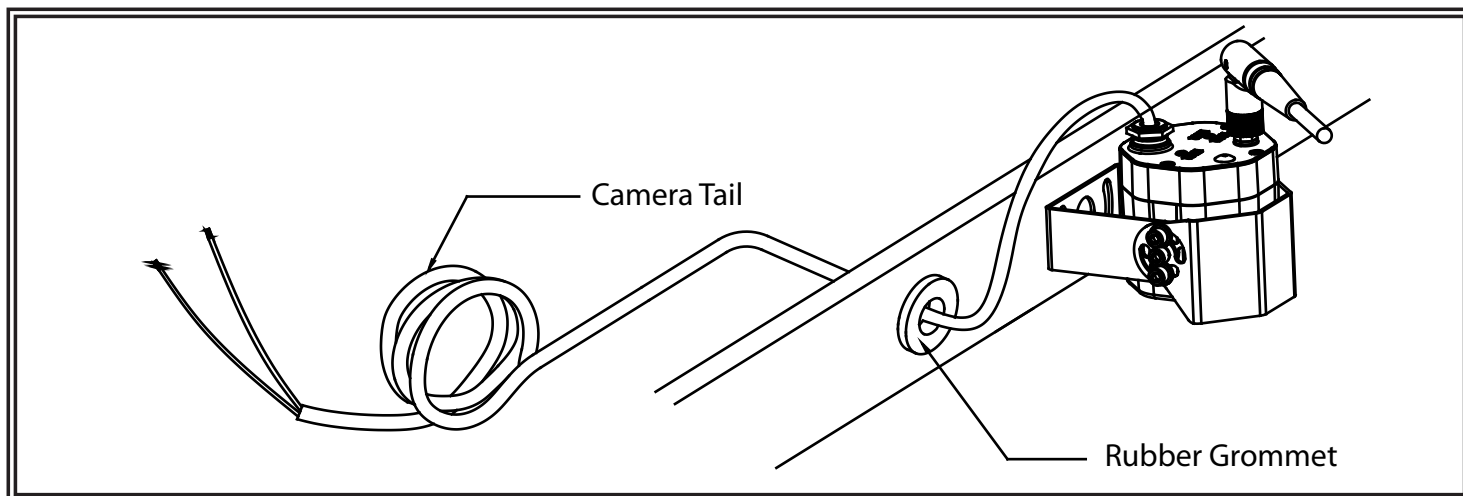

Figure 2
5. Connect the power leads to 12 or 24 volt as shown in Figure 2.